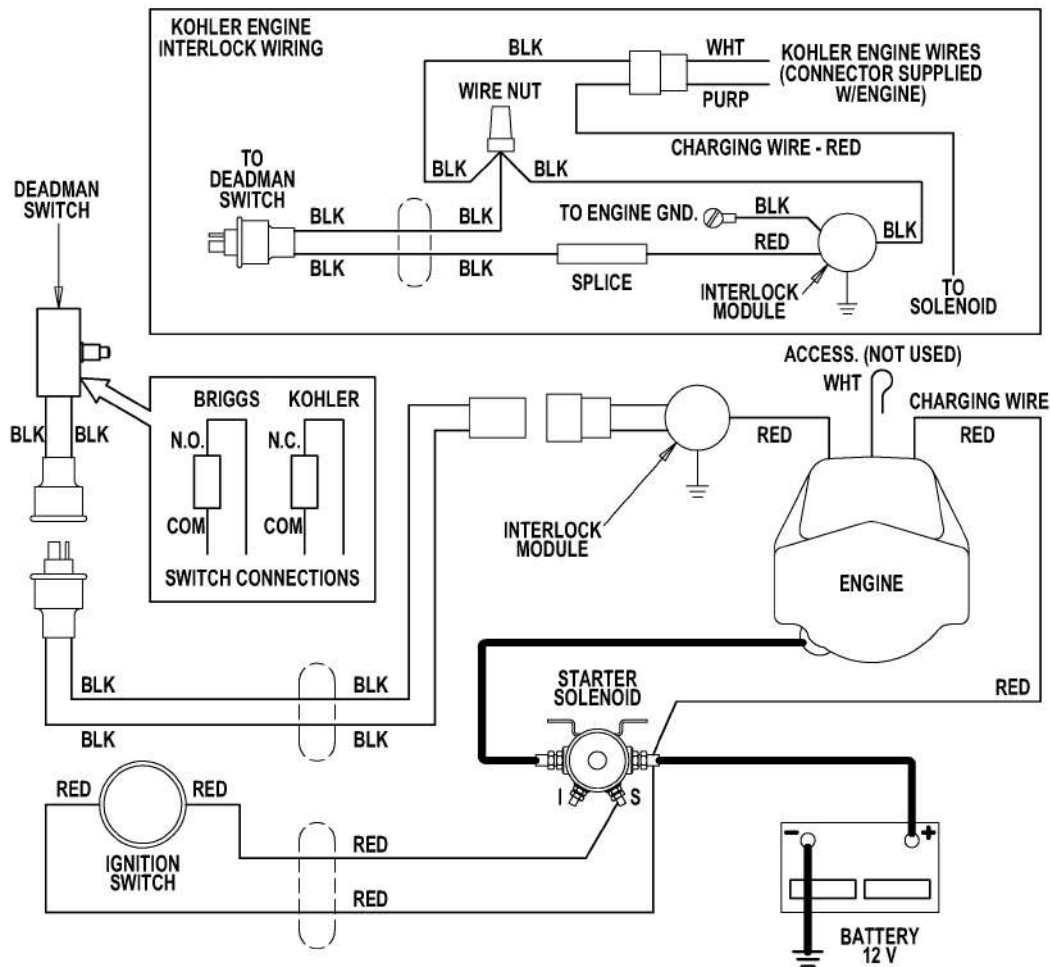

Figure 2
6. Place the joy stick assembly into position from underneath the frame and secure it with a spring pin. Plug in the wiring connector. Make sure that the wiring conforms to Figure 2. Check the level, and add water to the battery if necessary.